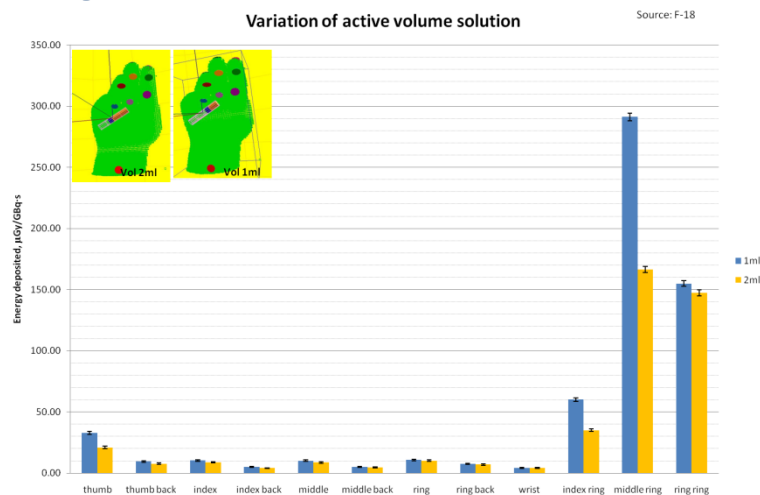

Figure 6: Example of scenario I2S. Test 3. Source F-18
- Do one histogram for each radionuclide. Same template that previous test. See example in Figure 6